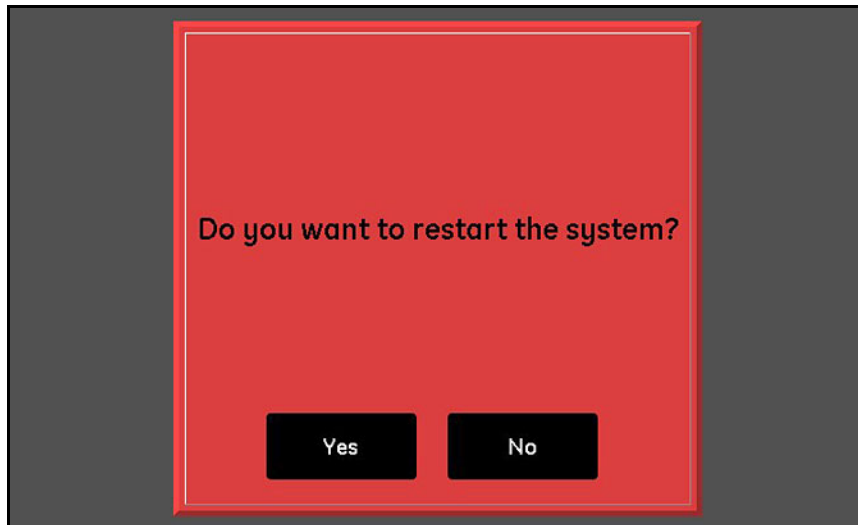

Figure 30: Restart Confirmation Screen
3. At the confirmation screen shown in *Figure 30* below, tap the **Yes** button to restart the unit or tap the **No** button to cancel the request.
To restart (i.e., reboot) the moisture.IQ system, tap the **Restart** button. Then, tap either **Yes** or **No** at a confirmation screen similar to the one shown in *Figure 30* on page 32.